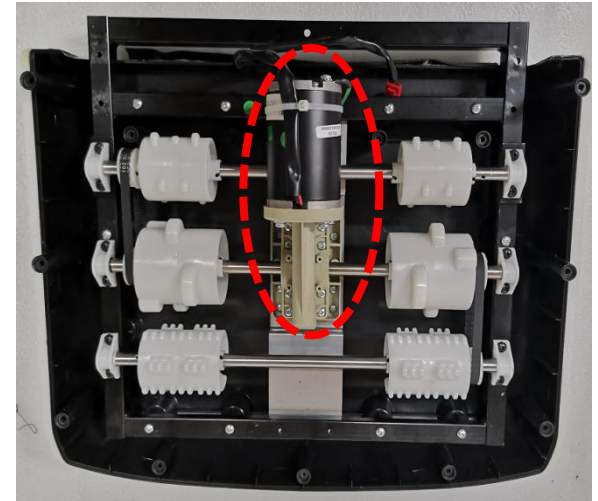

Figure 3
- C, Checking (fig. 3) whether the USB board plug-in is loose and falls off;
- D. If the wiring harness is good, use multimeter to measure whether the plug-in has voltage output (Figure 3) ; If it has, change the USB board, if not, change a new drive board
- D. If all above is normal. If the wiring harness is all right, consider replacing the sole roller motor (Figure 3);